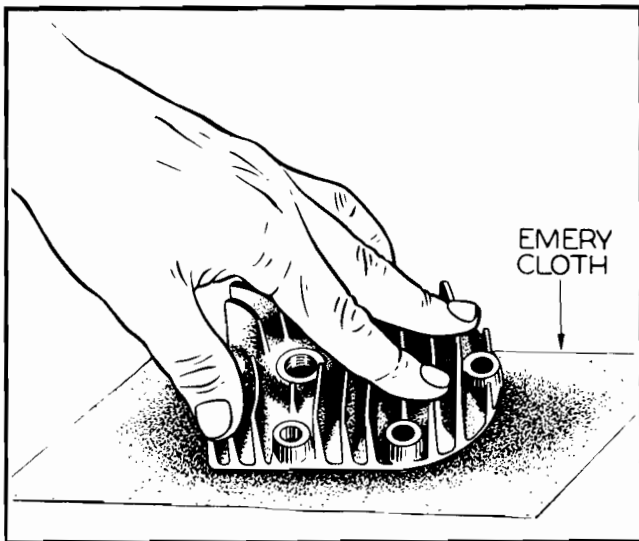

Figure No. 48—Resurfacing the Cylinder Head
2. If the cylinder head is severely warped, replace it. Slight warpage can be eliminated by resurfacing the head. (See Figure No. 48.)